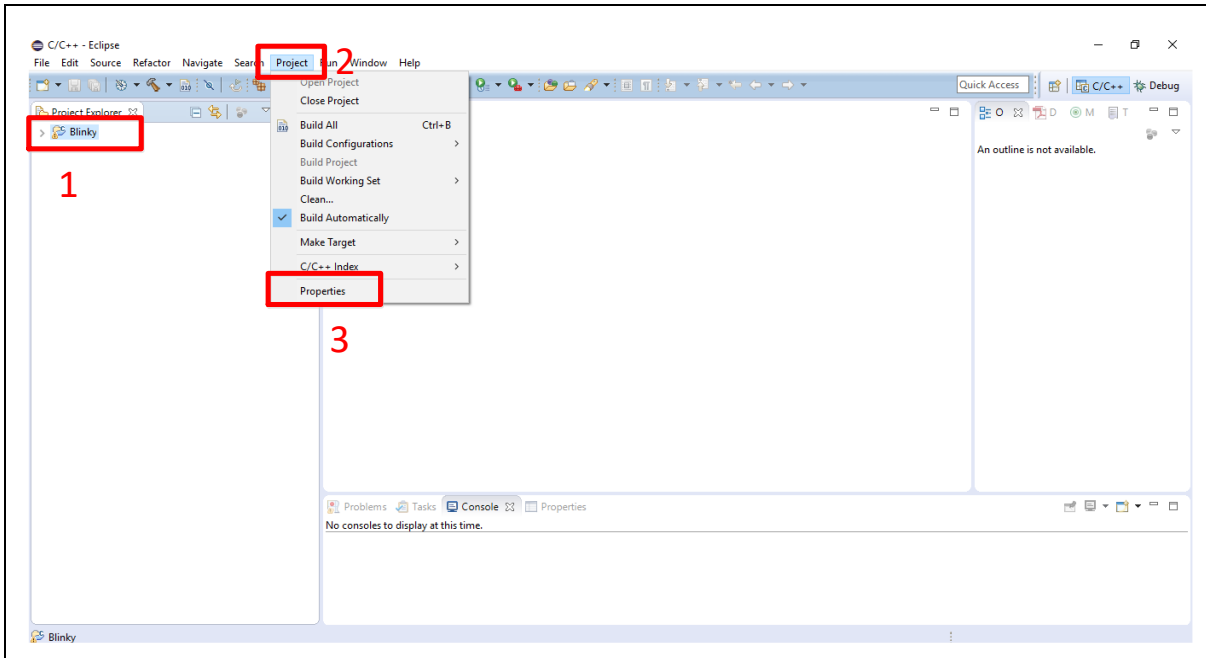

Figure 5-19 Build Project
3. Click the “Blinky” project and find the project properties as shown in Figure 5-19. Make sure the